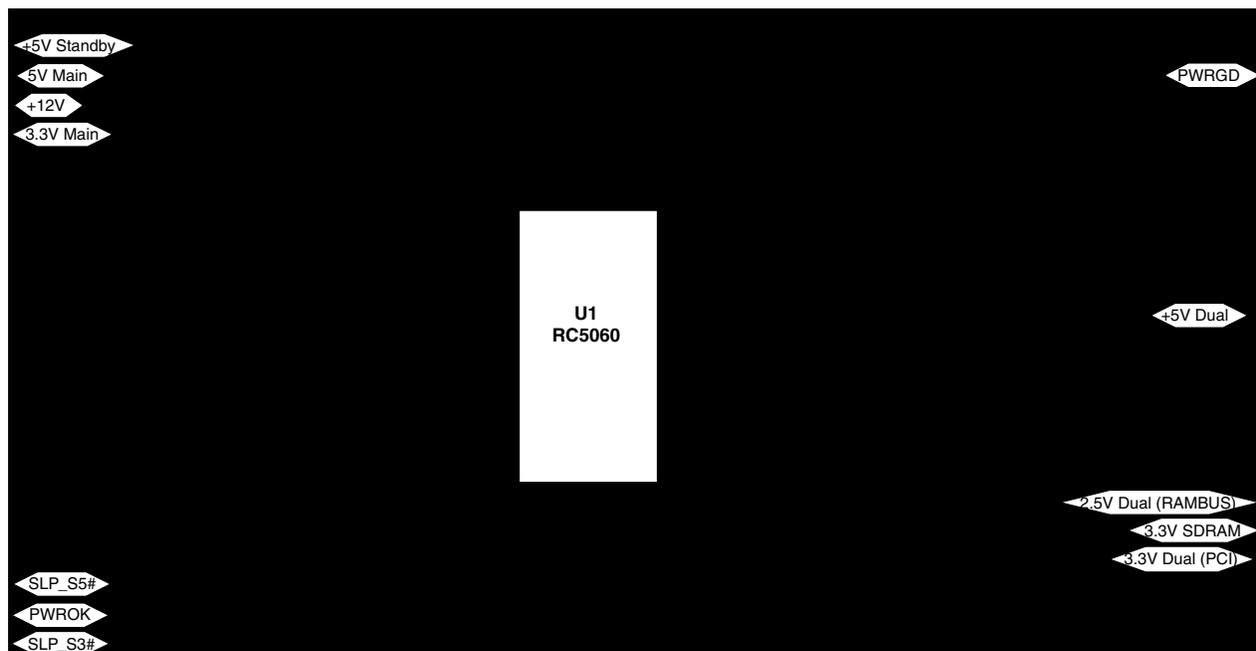

Figure 4. Camino ACPI Selector
($V_{+5VSTBY} = V_{+5VMAIN} = 5V$, $V_{+3.3V} = 3.3V$, $V_{+12V} = 12V$ and $T_A = +25^\circ C$ using circuit in Figure 4, unless otherwise noted.)
($V_{+5VSTBY} = V_{+5VMAIN} = 5V$, $V_{+3.3V} = 3.3V$, $V_{+12V} = 12V$ and $T_A = +25^{\circ}C$ using circuit in Figure 4, unless otherwise noted.)
5V dual is generated by two MOSFET switches, one from +5V main, the other from +5V standby, as shown in Figures 4 or 5. When main power is present, the first switch is on and the second off, and the opposite when main power is absent. Note carefully the polarity of the MOSFET Q5 that delivers power from the +5V main to the 5V dual: opposite to the connection of Q6, the source is connected to the +5V main input, and the drain is connected to the 5V dual output. This connection must be done this way because of Q5's body diode. When +5V main is not present, 5V dual is still on, and if Q5 were connected with the same polarity as Q6, the dual voltage would conduct through the body diode of Q5, attempting to power up the entire +5V main line. It is to avoid this overload that Q5 must be connected as shown.
3.3V dual is generated by two MOSFETs, one from +3.3V main, the other from +5V standby, as shown in Figures 4 or 5. When main power is present, the MOSFET Q3 is turned on as a switch, so that input and output are connected together. When main power is absent, the MOSFET Q4 is controlled by the RC5060 as a linear regulator, generating a regulated 3.3V from +5V standby. As with the 5V dual, the MOSFET Q3 must be connected as shown in the figures, to avoid back-feed.
3.3V SDRAM is generated by one external MOSFET switch from +3.3V main, and one linear regulator internal to the RC5060 from +5V standby, as shown in Figures 4 or 5, and in the block diagram on the front page. When main power is present, the MOSFET Q1 is turned on as a switch, so that input and output are connected together. When main power is absent, the internal linear regulator is on, generating a regulated 3.3V from +5V standby. As with the other duals, the MOSFET Q1 must be connected as shown in the figures, to avoid back-feed.
2.5V dual is generated by one external NPN bipolar acting as a linear regulator from +3.3V main, and one linear regulator internal to the RC5060 from +5V standby, as shown in Figure 4, and in the block diagram on the front page. When main power is present, the NPN Q2 linear regulates, and when main power is absent, the internal linear regulator is on. Q2 cannot be substituted with a MOSFET. If used in one direction, the MOSFET's body diode would permit back-feed; if used in the other direction, it would short-circuit the linear regulator action.
In main power operation, the RC5060 is run from the +12V main supply. This supply also provides voltage to the various MOSFET gates. However, during standby, this supply is off. To provide power to the chip and the appropriate gates, the RC5060 incorporates a free-running charge pump. As shown in Figures 4 and 5, and in the block diagram on the front page, a capacitor attached between pins 1 and 2 of the RC5060 acts as a charge pump with internal diodes. The charge pump output is internally diode or'ed with the 12V input. The 12V input must have a series diode to prevent back-feeding the charge pump to the +12V main when in standby. The 12V input line needs a bypass capacitor for high-frequency noise rejection.